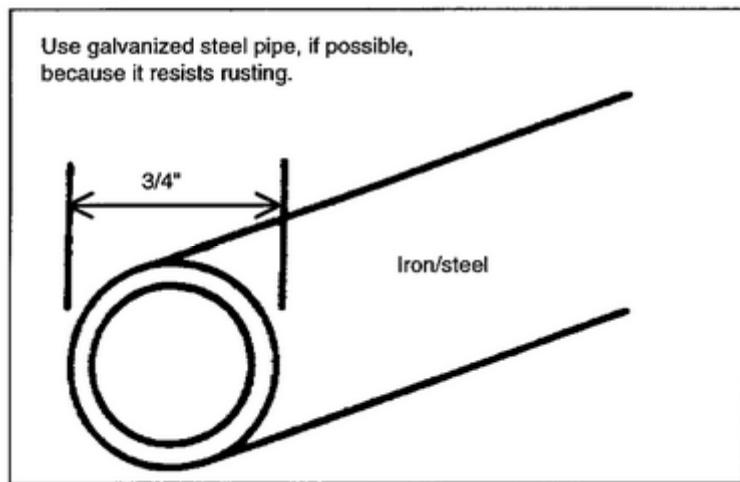

Figure 1-5. Iron/steel (galvanized) grounding rod
d. An iron/steel (galvanized) grounding rod is at least $3/4$ inch in diameter (Figure 1-5).